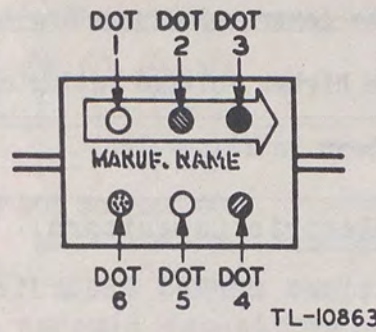

Figure 12. Molded-paper capacitors, AWS six-dot color code.
(2) The fifth dot in the AWS color code indicates the capacitance tolerance in percent of rated capacitance. The sixth dot denotes characteristics of design. For example: a 0.006-microfarad (6,000 micromicrofarads) plus or minus 10 percent mica capacitor would be marked: black (0), blue (6), black (0), red (100), silver (plus or minus 10 percent), black (mica bypass, with no temperature coefficient specified).
(3) It will be noted that this color code does not include the voltage rating. This is considered unnecessary since, with few exceptions, all capacitors marked with the AWS color code are rated at 500 d-c working volts. The exceptions, all of which are rated at 300 volts, are: AWS type CM35 capacitors with capacitances of 6,800, 7,500, and 8,200 micromicrofarads; AWS type CM40 capacitors with capacitances of 9,100 and 10,000 micromicrofarads.
d. The AWS Code for Molded-paper Capacitors. (1) the AWS color for molded-paper dielectric capacitors is shown in figure 12. Like the code for mica capacitors, referred to in subparagraph c above, it uses six colored dots, with an arrow to indicate the sequence. Units marked according to this system can readily be identified by the fact that both the first and fifth dots are always silver. The other dots are used as follows: the second dot gives the first digit of the capacitance in micromicrofarads; the third dot gives the second significant figure; the fourth dot indicates the decimal multiplier; and the sixth dot shows whether the unit has a maximum operating temperature of 167° or 185° F.
(2) No indication of the working voltage is given by this color code. However, all AWS molded-paper capacitors have d-c working voltages between 300 and 800 volts. In general the lower voltage rating applies to units with high-capacitance ratings; the higher voltage rating applies to units with low-capacitance ratings as shown in figure 12.